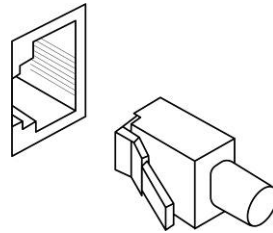

Figure 16: Copper Cable Installation
2.	Connect the RJ-45 connector at one end of the cable to the RJ-45 port on the media converter. See Figure 16 below.